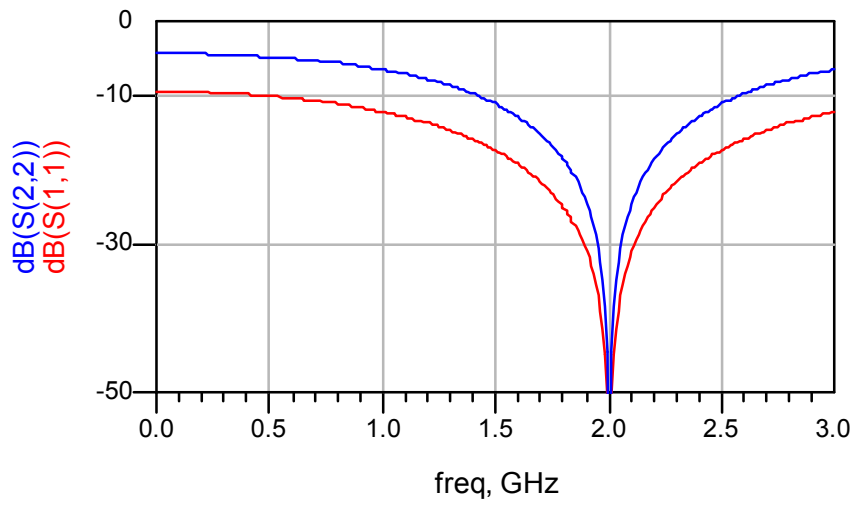

Figure 6. Plots of input reflection coefficient for matcht_fake (S11, lower/red curve) and matchtb_fake (S22, upper/blue curve).
15. Open the graphics display window. Choose a rectangular plot and add S_{11} and S_{22} to the plot (each in dB). Now double click on the plot, click on the Plot Options tab, unset the Auto Scale option and set the minimum value to -50 . Your graph should now resemble Figure 6.